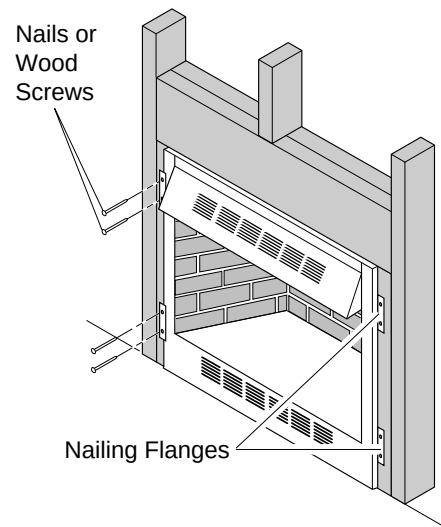

Figure 18 - Attaching Firebox to Wall Studs
7. Attach firebox to wall studs using nails or wood screws through holes in nailing flange (see Figure 18).